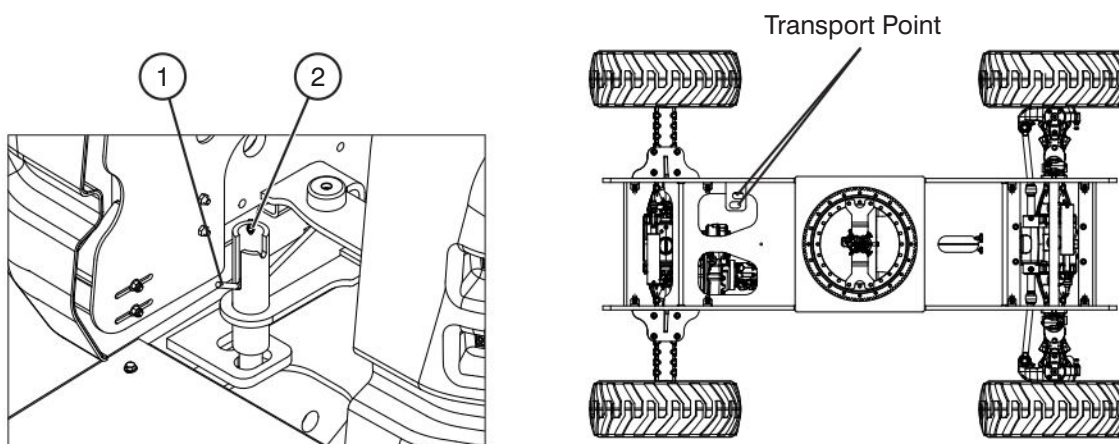

Figure 3-5. Turret Transportation Lock & Locking Points
1. Ensure that turret is positioned so that turret transportation lock tube (item 1 - Figure 3-5) is aligned into one of two turret locking points in the turret rotation lock plate.
2. Pull out turret lock retaining pin (item 2 - Figure 3-5). Lower turret lock into locked position and reinsert turret lock retaining pin.
1. Place boom in stowed position centered between drive wheels. Lock turret using turret transportation locking pin (refer to Section 3.10-2) into the transport point (refer to Figure 3-5).